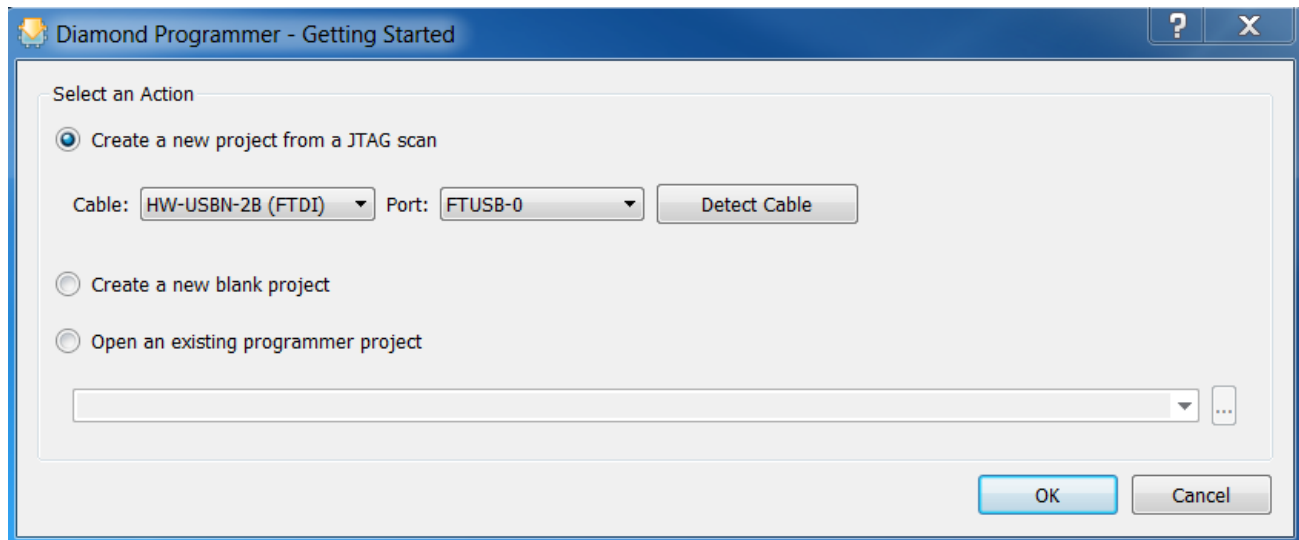

Figure 7.1. Diamond Programmer Getting Started Page
1. Open the Diamond Programmer application. The Getting Started page opens as shown in Figure 7.1.